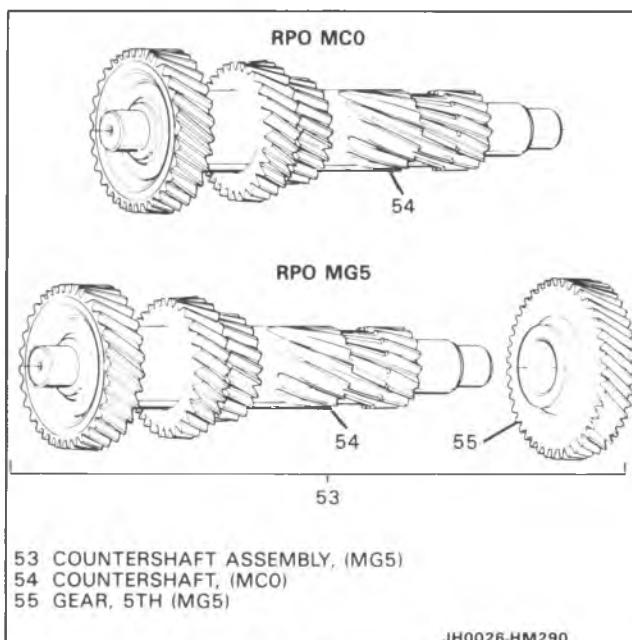

Figure 42 Countershafts
**Inspect (Figure 42)**
1. Shaft (54) or (53), for cracks, replace if these conditions exist.
2. Gear teeth (54) and (53) for scuffed, nicked, burred, or broken teeth.